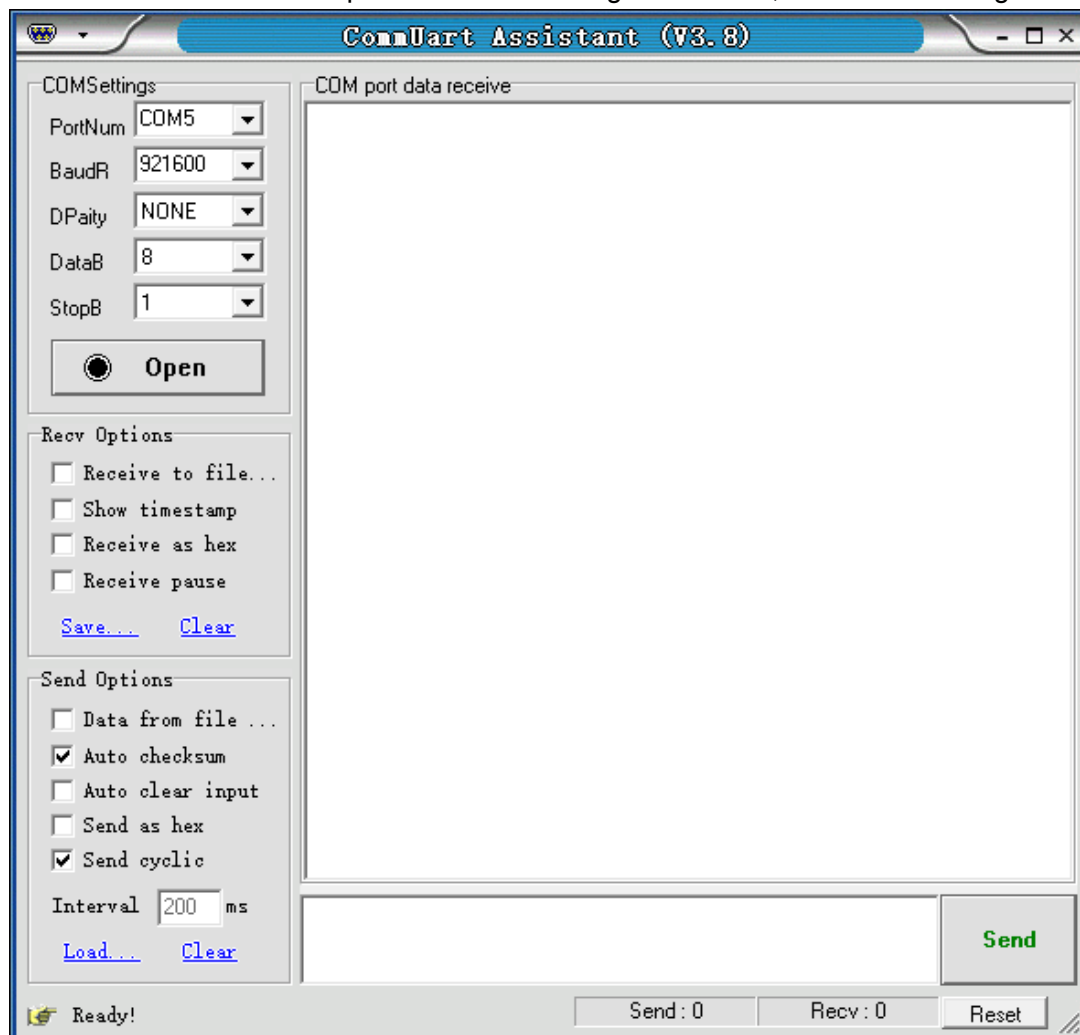

Fig.106 "CommUart Assistant" Software display
3. Open the folder "Uart Driver" in your disk and double click the file UartAssist.exe. It will call out the software interface, as is shown in Fig.106.